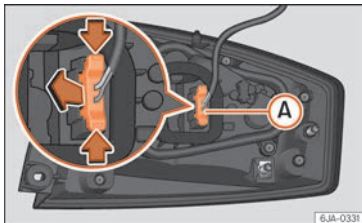

Fig. 99 Light connector at the rear of the rear light unit.
- Disconnect the light connector (A) »» Fig. 99 by moving its side levers (arrows) and pulling the connector outwards.